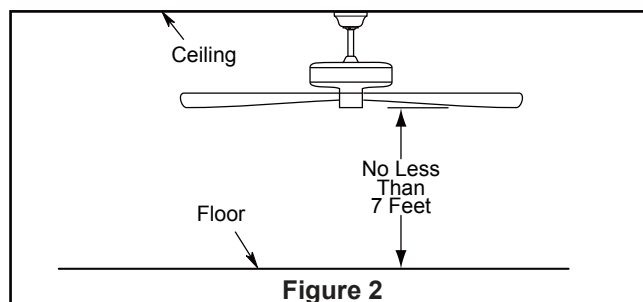

Figure 2
The fan must be hung with at least 7' of clearance from floor to blades. (Figure 2)
To avoid possible electrical shock, be sure electricity is turned off at the main fuse box before wiring. (Figure 2)
2. Securely attach and tighten the canopy screw cover over the shoulder screws in the hanger bracket utilizing the key slot twist-lock feature. (Figure 2)